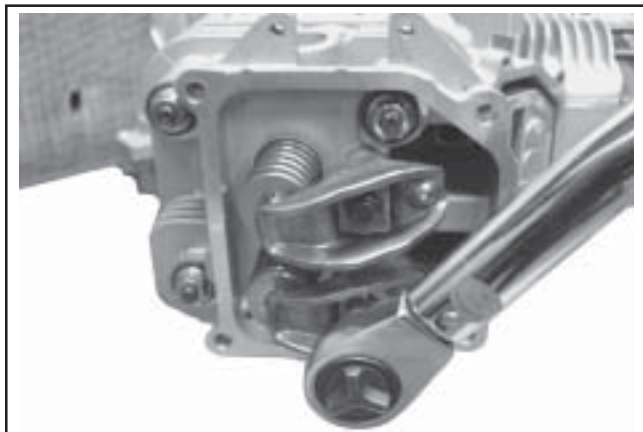

Figure 11-42. Torquing Rocker Arm Screws.
3. Torque the hex flange screws to **11.3 N·m (100 in. lb.)**. See Figure 11-42.